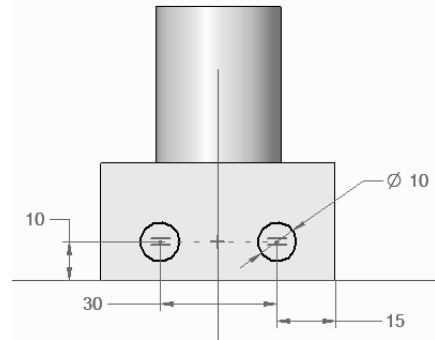

Figure 5-55 Profile for the cutout
3. Draw the profile for the cutout. The profile consists of two circles each with a diameter of 10, as shown in Figure 5-55